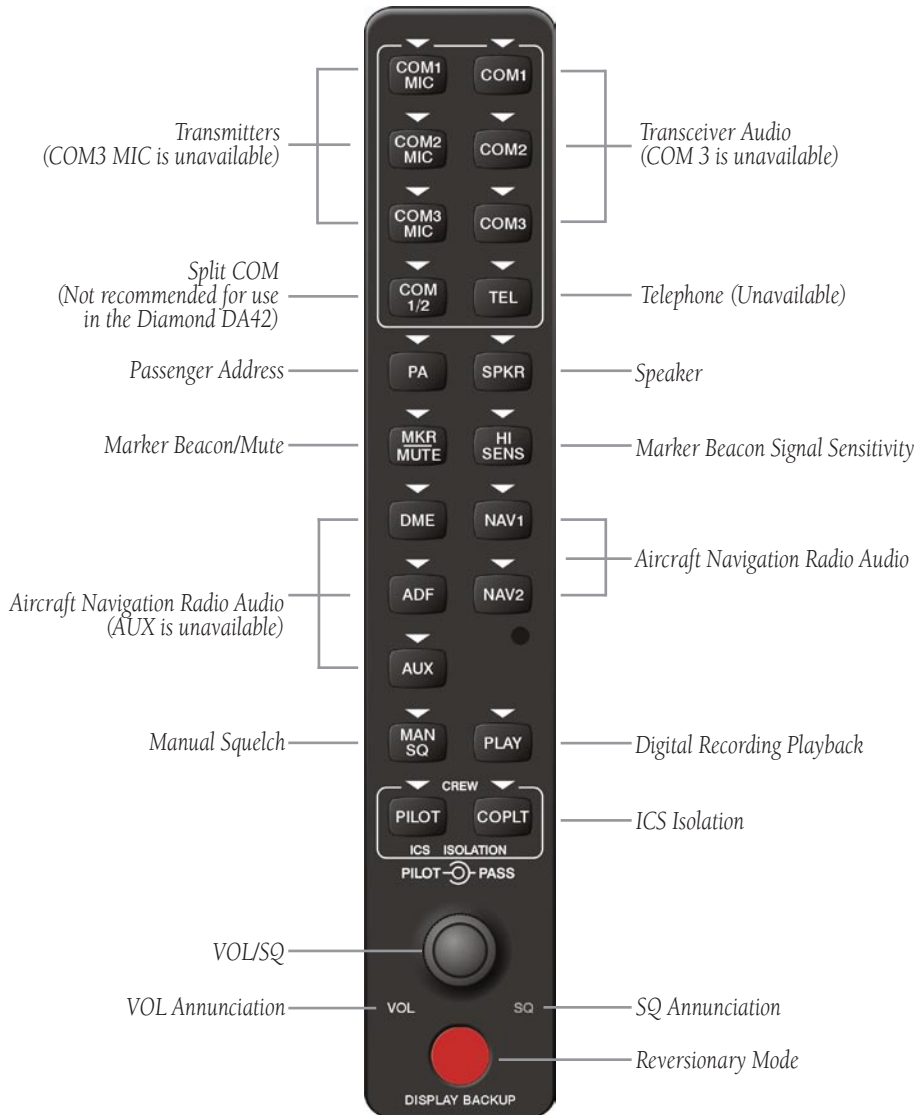

Figure 3-1 Audio Panel Controls
The GMA 1347 Audio Panel features the following three (3) major groups of keys in descending order, as shown in Figure 3-1: